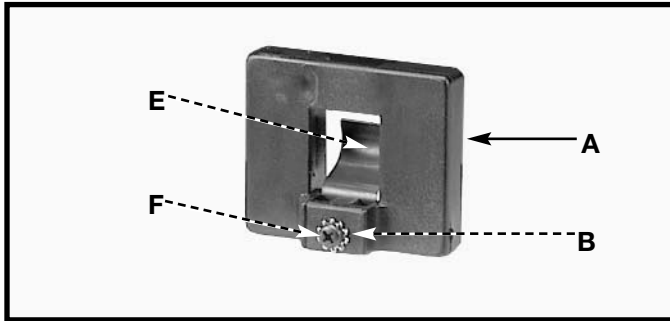
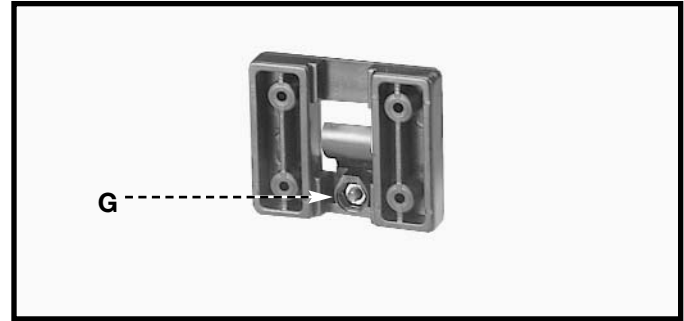

Fig. 5
Fig. 6
1. Attach the spring clip (E) Fig. 5 to the miter gauge holder (A) using an M4x.7x10mm pan head screw (F), 3/16 inch external tooth lockwasher, (B) and M4x.7 hex nut.
NOTE: The hex nut (G) Fig. 6 will fit into the recess at the back of the miter gauge holder (A) Fig. 5 to keep the spring clip (E) secured to the miter gauge holder.